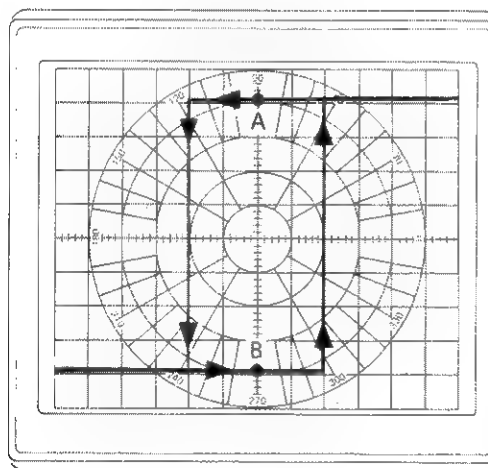

Figure A2-22. Hysteresis Loop of Phase Trace
- d. Set SCAN TIME SEC to MANUAL. Sweep through the transition in both forward and reverse direction using the Manual sweep control. Note the hysteresis loop as shown in Figure A2-22.
- e. Adjust both CW FREQUENCY and $\pm\Delta F$ FREQUENCY to make the hysteresis loop six divisions wide and centered on the vertical center line of CRT. (See Figure A2-22.)
- f. Press Channel 1 DISPLAY MKR. Center trace dot on the vertical center line at point "A" on Figure A2-22 trace. The marker readout should be $+180$ degrees ± 3.3 degrees.
- g. Center trace dot on the vertical center line at point "B" on Figure A2-22 trace. The Channel 1 marker readout should be -180 degrees ± 3.3 degrees.